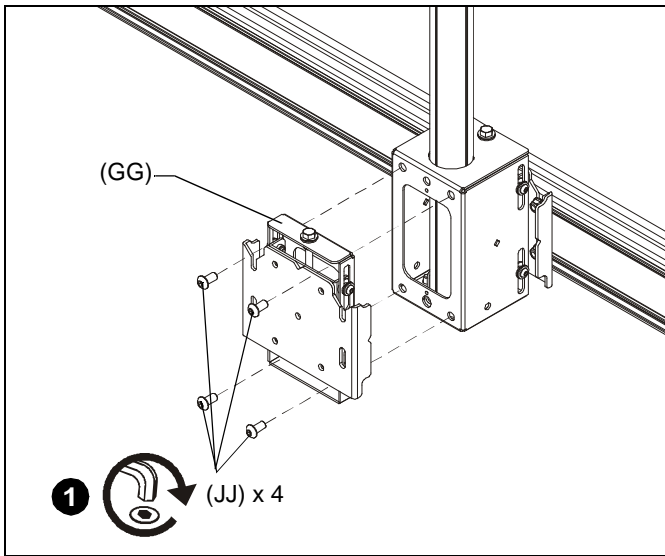

Figure 9
1. Attach add-on head (GG) to existing array head using four 5/16 x 5/8" button head cap screws (JJ). (See Figure 9)